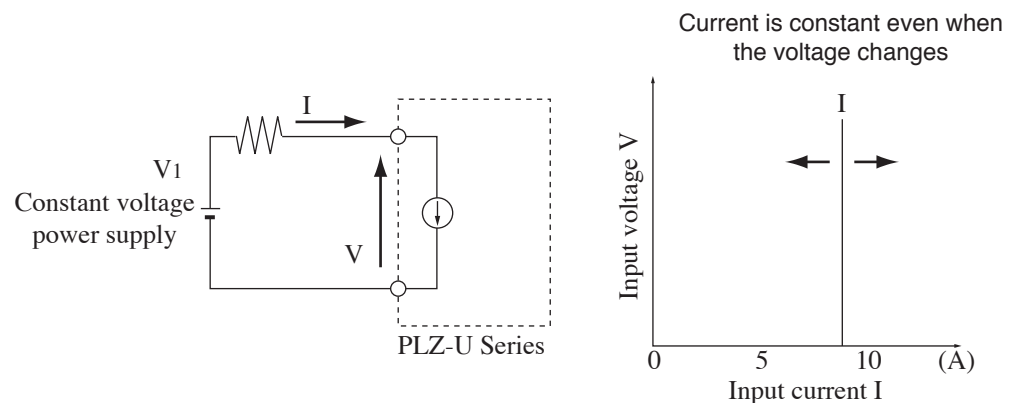

Fig. A-2 Equivalent circuit of the constant current load and operation
When the PLZ-U is used in CC mode, the PLZ-U operates as a constant current load as shown in Fig. A-2. The PLZ-U supplies the specified current (I) independent of the output voltage of the constant-voltage power supply (V_1).